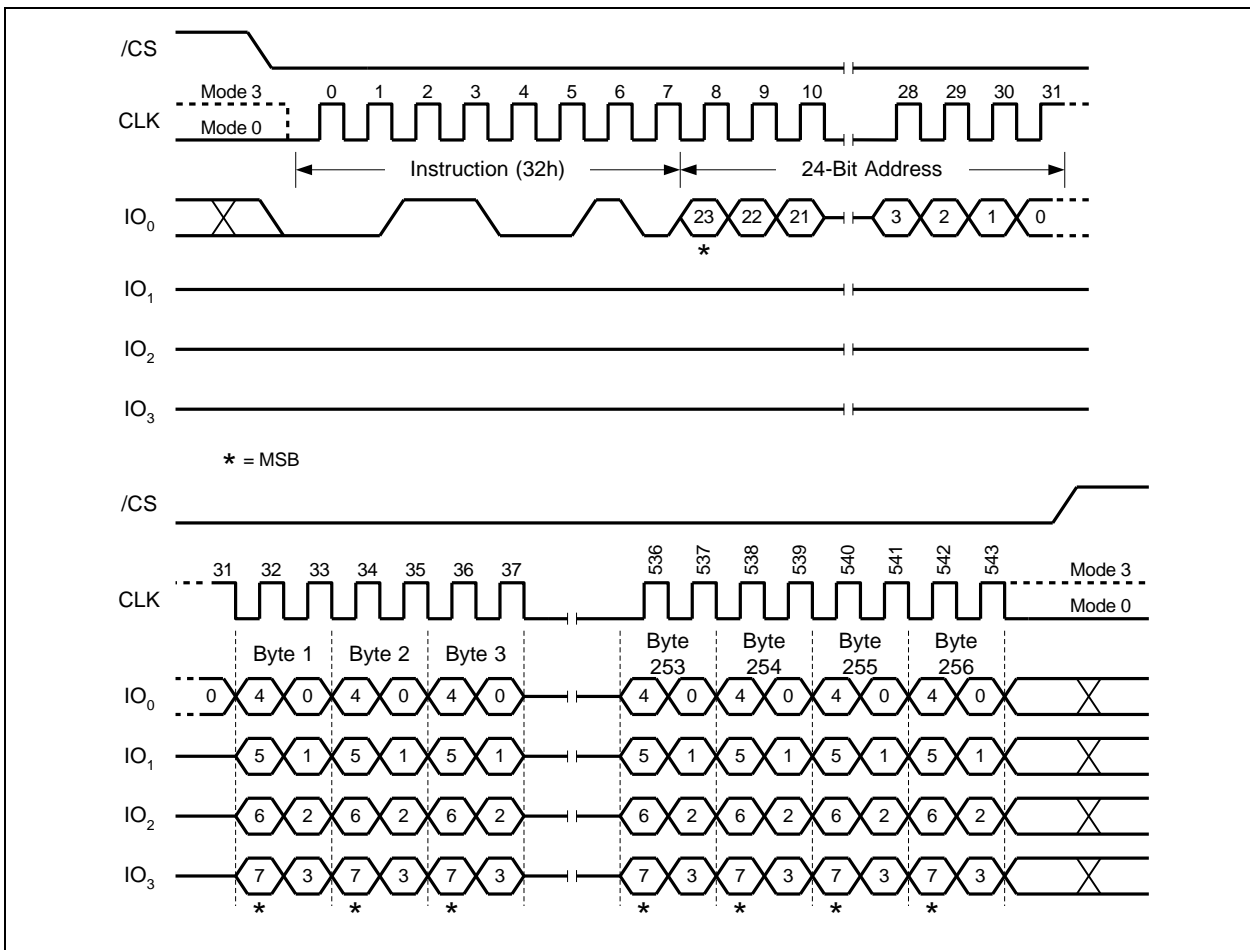

Figure 30. Quad Input Page Program Instruction
To use Quad Page Program the Quad Enable (QE) bit in Status Register-2 must be set to 1. A Write Enable instruction must be executed before the device will accept the Quad Page Program instruction (Status Register-1, WEL=1). The instruction is initiated by driving the /CS pin low then shifting the instruction code “32h” followed by a 24/32-bit address (A23/A31-A0) and at least one data byte, into the IO pins. The /CS pin must be held low for the entire length of the instruction while data is being sent to the device. All other functions of Quad Page Program are identical to standard Page Program. The Quad Page Program instruction sequence is shown in Figure 30.